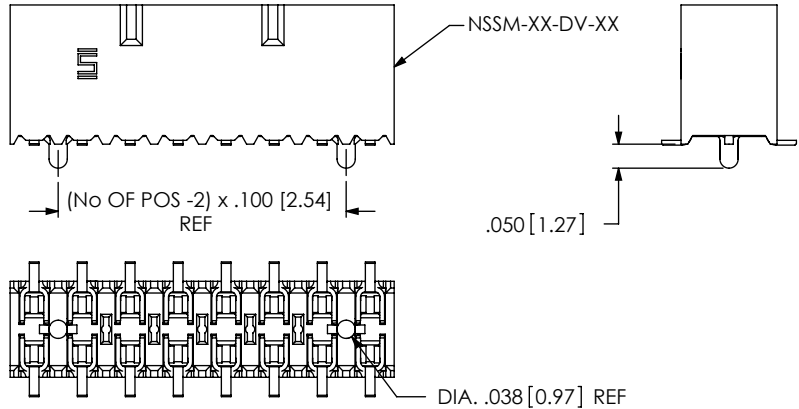

FIGURE 8
- TR: TAPE & REEL (SEE FIG 8, SHT 2-